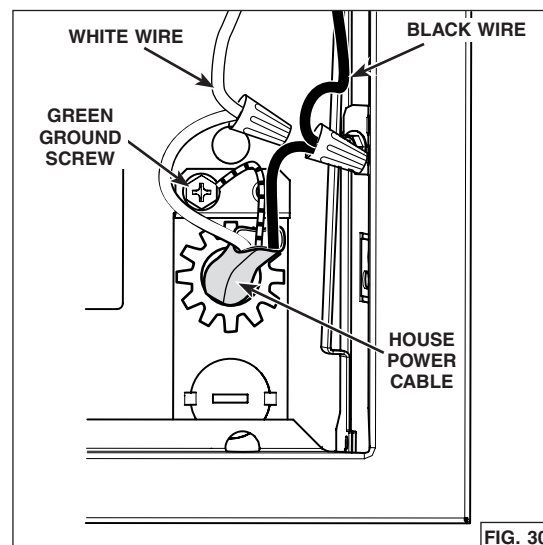

FIG. 30
1. Using appropriate wire nuts (not included), connect house power cable to unit wiring: BLACK to BLACK, WHITE to WHITE and GREEN or bare wire to GREEN ground screw (FIG. 30).